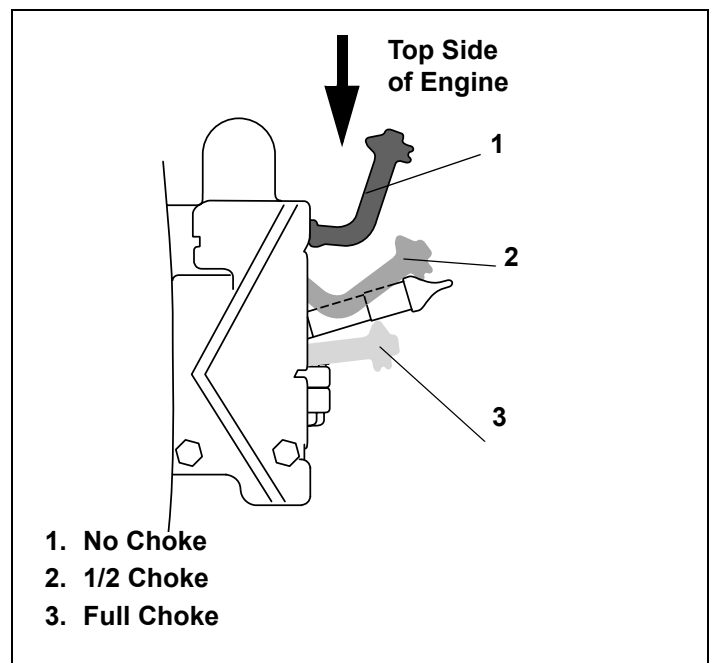

Figure 17. Choke Control Positions
3. Move engine choke back and forth several times and leave in the "FULL" position. See Figure 17.